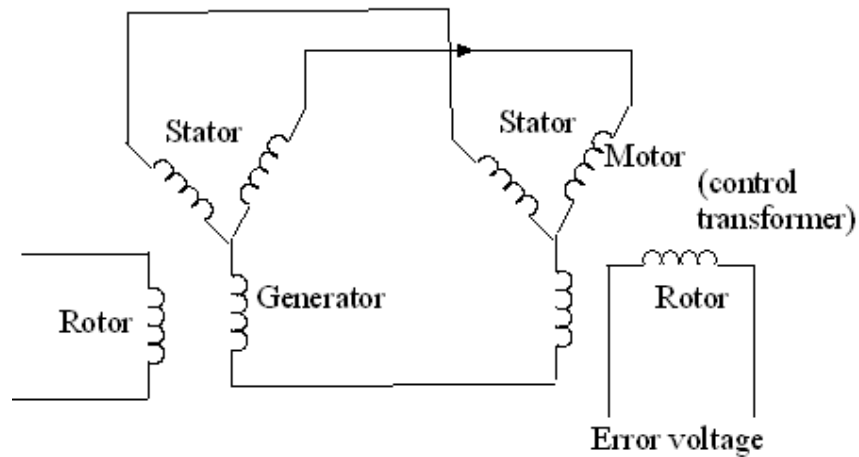
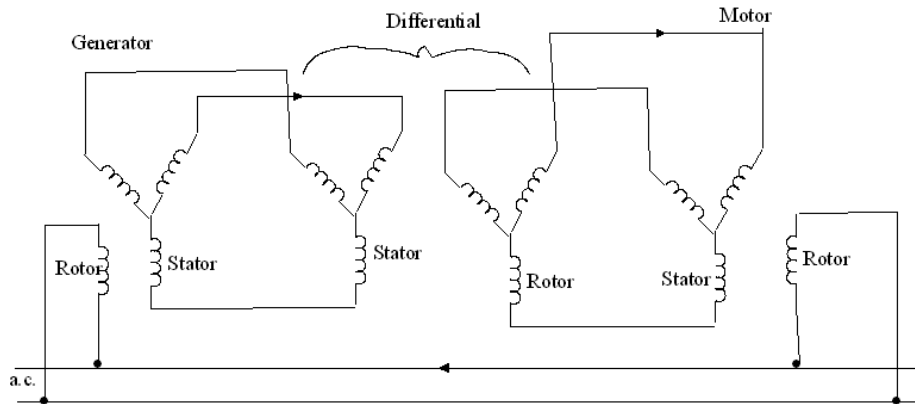

Fig P3
Fig P4
- (b) for indicating the difference in positions, as generator – transformer combination (Fig P3)
- (c) as differential selsyns (Fig P4)
Selsyns as position indicators: If the circuit to the rotor of the motor is opened (Fig P3) a voltage will be produced in the rotor winding, the magnitude of which is a function of the angular position of the rotor of the motor w.r.t. that of the generator rotor. When the motor rotor is at a position of 90 electrical degrees from the position occupied and the rotor is electrically connected and free, the magnitude of the rotor voltage will be zero. Then any movement of the generator rotor will produce a voltage in the motor rotor which is a function of the angular position of the generator rotor (or other equipment coupled to it). This circuit has found use in many servomechanism systems. For this application the motor unit serves just as a control transformer.
A third useful application of the selsyn system is that of the differential selsyn shown in Fig P4; this is constructed like a wound rotor induction motor having a 1:1 ratio of turns. When the rotors of the motor and generator of Fig P3 are in a given position, the differential selsyn will adjust the position of the rotor to its stator such that minimum current flows in its windings. With the rotor of the motor locked in a particular position, a change in the position of the generator rotor will cause a corresponding change in the position of the rotor of the differential selsyn. In this way the circuit of Fig P4 performs the same function as that shown in Fig P3.